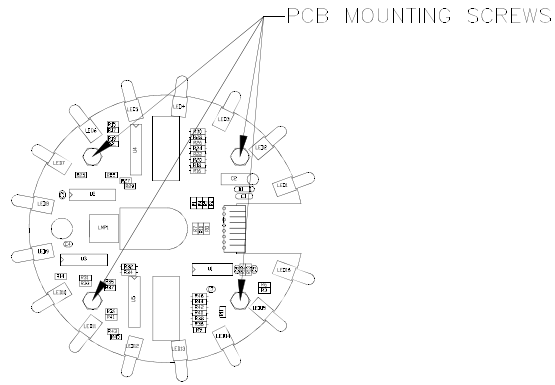

FIGURE 7
- To remove the L.E.D. Chase Light PCB (p/n AFM-PCB-SAUCR16) and the Saucer PCB Insulator (p/n AFM-01-14210), remove the four PCB mounting screws (p/n FSM-083-HHS037C). (See Fig.7)